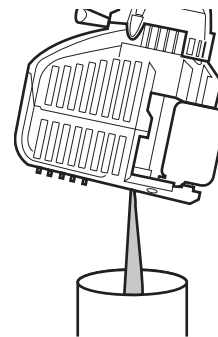

Fig. 27
- If the oil level is too high, tip the unit and drain the excess oil into an appropriate container (Fig. 27).
3. Tip the unit vertically to pour the oil out of the oil fill hole and into a container (Fig. 27). Allow ample time for complete drainage.